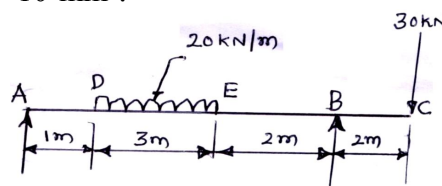

Fig.Q.10(b)
b. An over hanging beam ABC, supported at A and B is loaded as shown in Fig.Q.10(b). Determine the deflection at free end C and the maximum deflection between A and B. Take $E = 200\text{kN/mm}^2$ and $I = 45 \times 10^6\text{mm}^4$. (10 Marks)